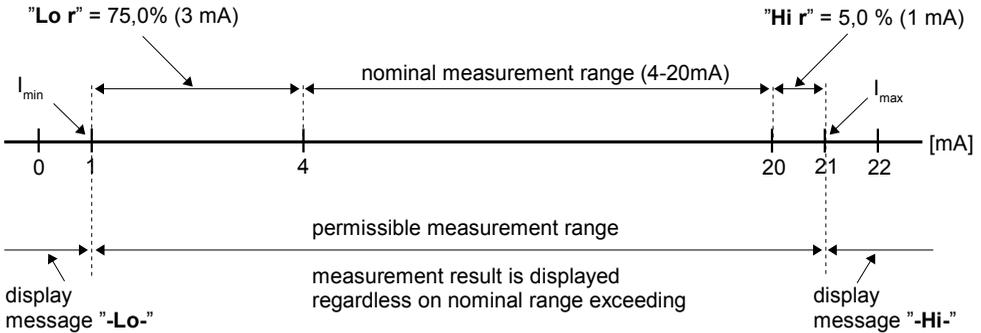

Figure 7.1 Example of definition of permissible range of input signal -  $"Lo r"$  and  $"Hi r"$  parameters ( $"4-20"$  mode)
- these parameters define the expansion of nominal range in percent. They determine the permissible range of input signal (Figure 7.1).